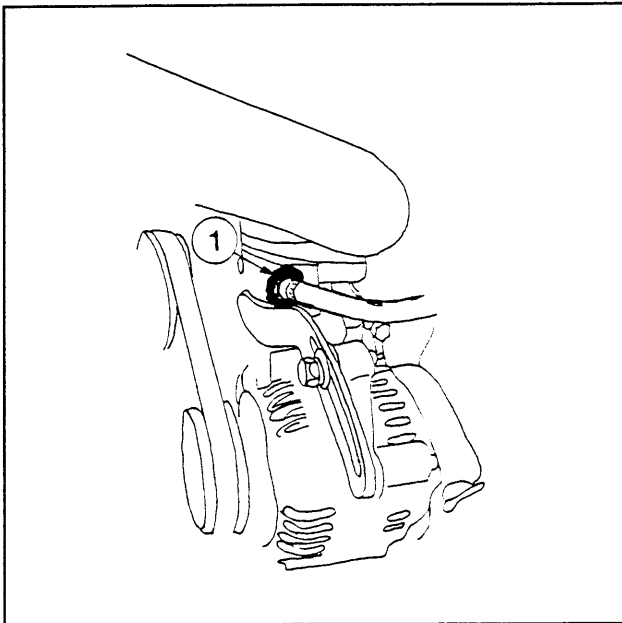

Figure 1
4. Locate the pressure port on the left side of the thermostat housing. Remove the housing from the engine. Drill a 9/16"dia. hole through the housing, inside the port, to permit access to the inside of the housing. Tap the port with 3/8"NPT thread. Flush the housing to remove any metal shavings or debris. Screw one of the 3/8"NPT-3/8"barb 180 degree fittings (1) into the housing. Reattach the housing to the engine. REMEMBER to use a water sealant material around the threads of the fitting. (see Figure 1)